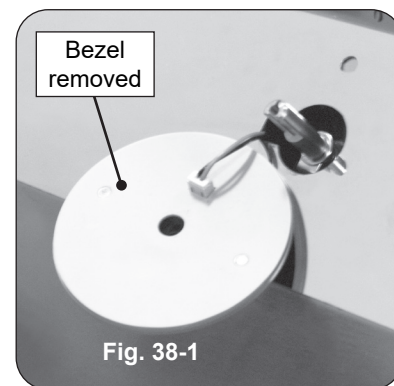

Fig. 38-1
4. Slowly lift the lighted bezels to clear the valve stems, and let rest as shown in Fig. 38-1.